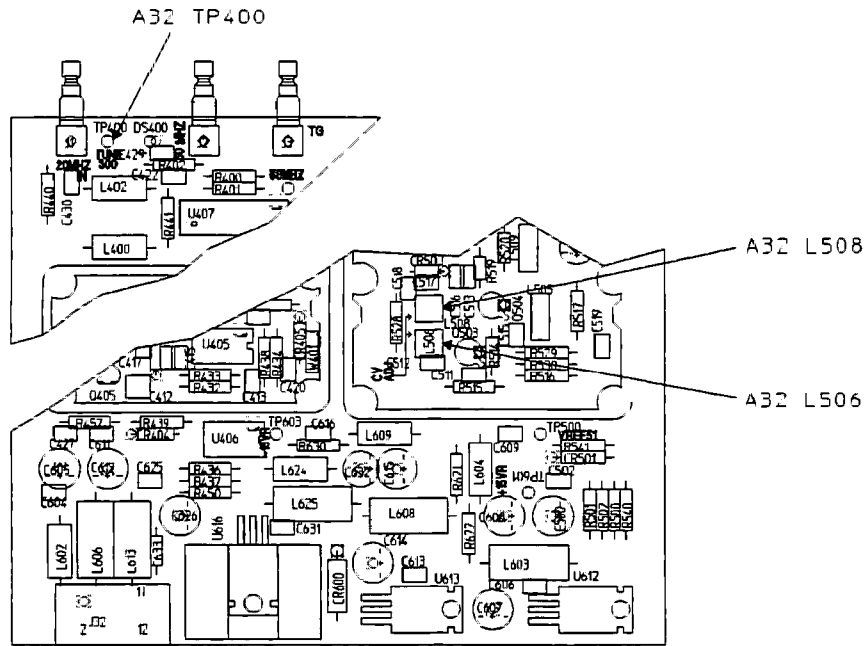

Figure 5-1. A32 300 MHz Component Locator
3. Connect the multimeter's input terminal to A32 TP400 (see figure 5-1) and its ground terminal to chassis ground.